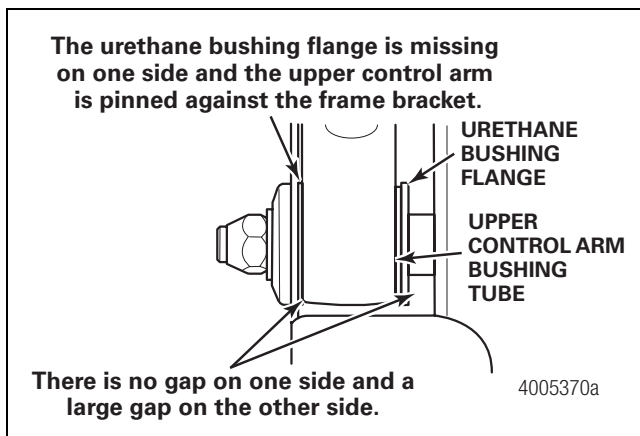

Figure 9.11
- C. The upper control arm and bushing have shifted and clamped to one side. The bushing flange is missing on one side. The upper control arm is pinned against the frame bracket. Significant wear exists between the upper control arm and the frame bracket or axle seat. There is no free play gap on one side, and a large gap on the other side. Figure 9.11.